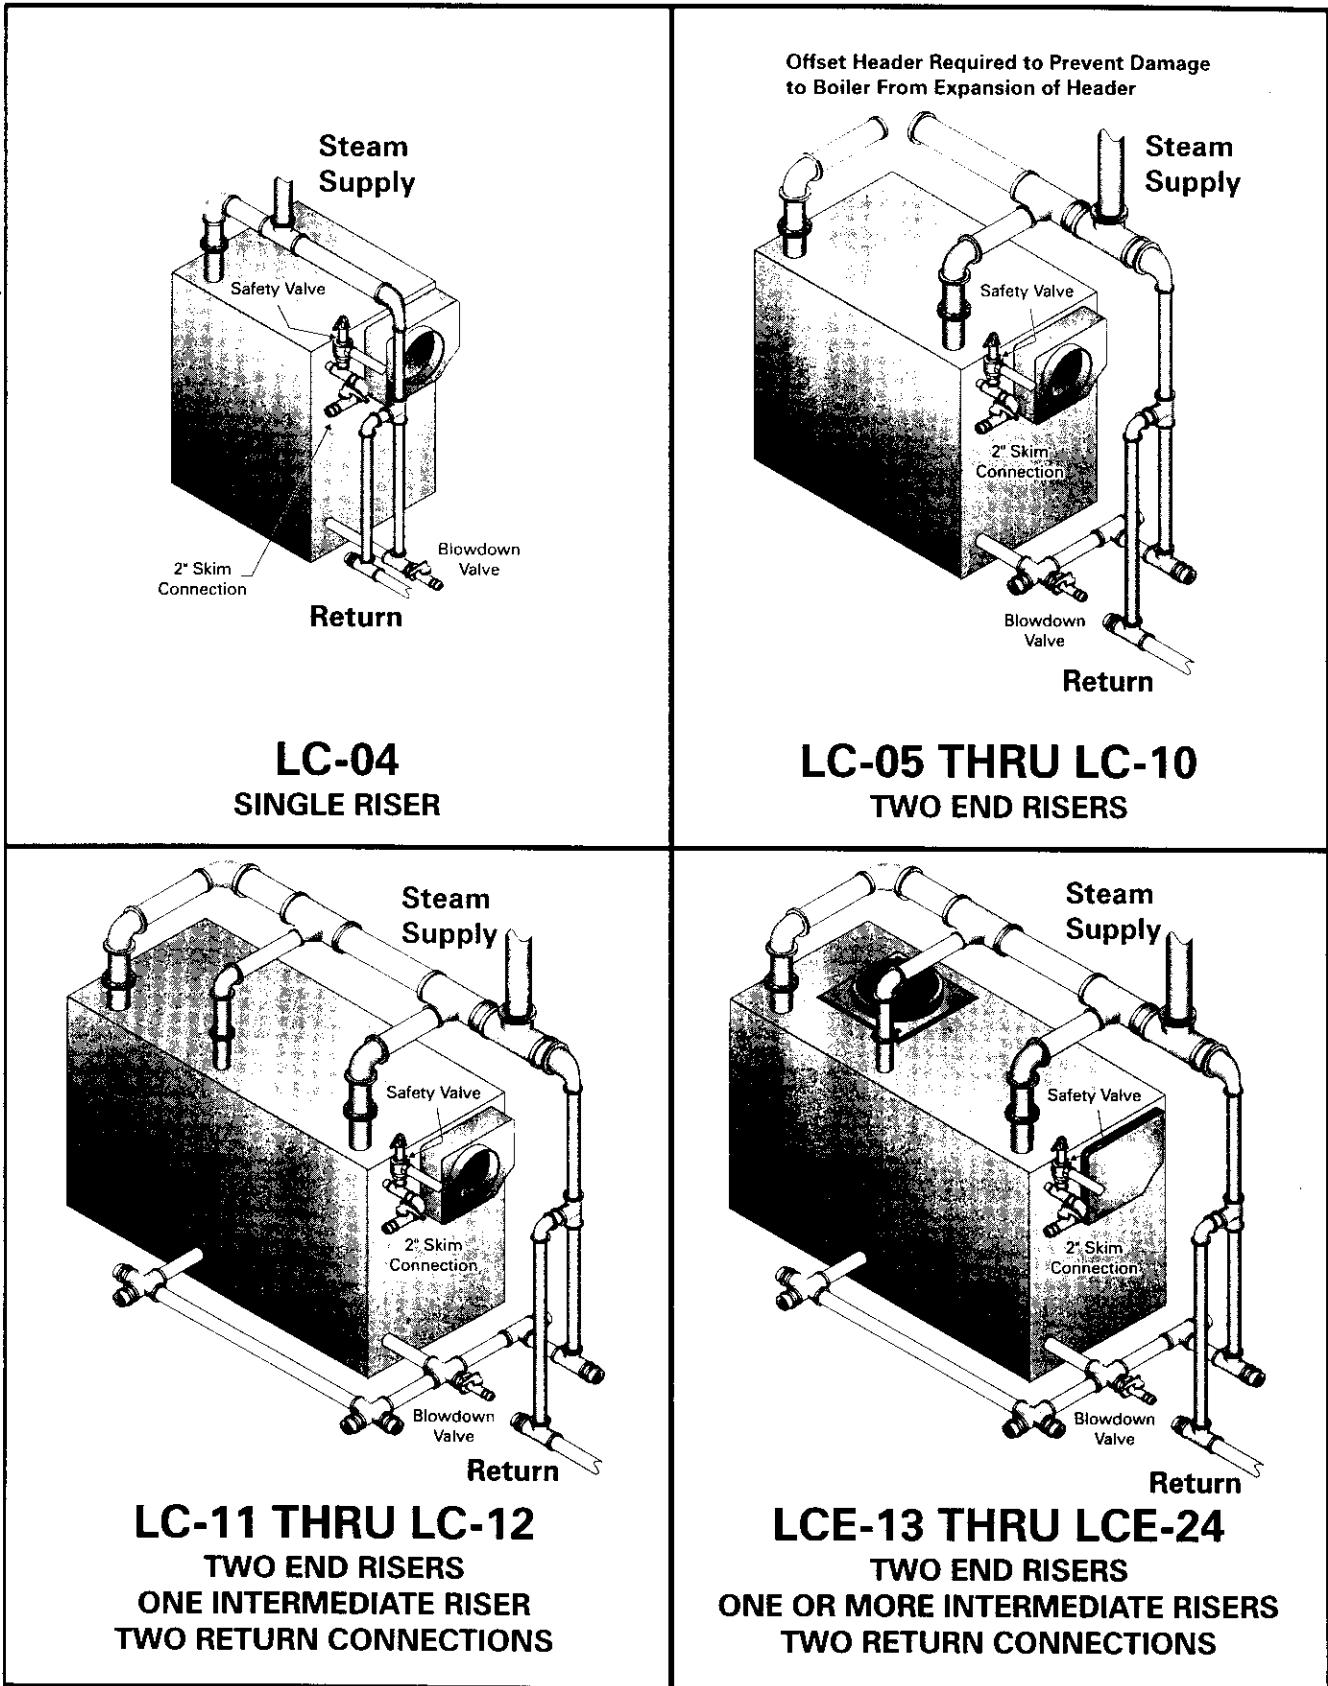

Figure 21: Supply and Return Piping – Pumped Return and Parallel Flow Gravity Systems
1. See Figure 21 for piping illustration.
4. Figure 21 shows the Supply and Return piping for Parallel Flow Gravity systems and all Pumped Return Systems.